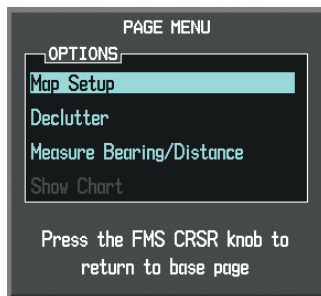

Figure 6-138 Navigation Map Page Menu
- 3) With 'Map Setup' highlighted, press the **ENT** Key (Figure 6-138).